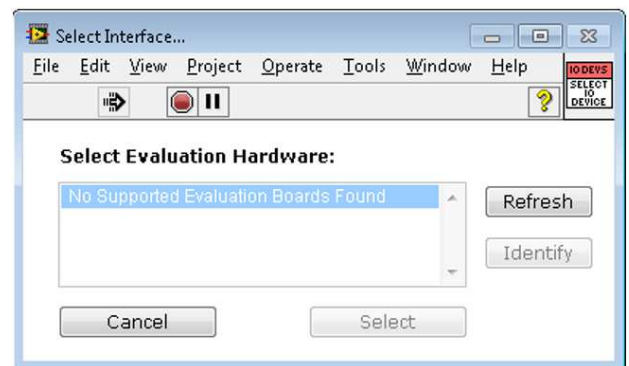

Figure 15. Connectivity Error Alert
2. If the **AD7761** evaluation system is not connected to the USB port via the **EVAL-SDP-CH1Z** when the software is launched, a connectivity error displays prompting the user to choose an evaluation board (see Figure 15). Connect the evaluation board to the USB port of the PC, wait a few seconds, click **Refresh** and then follow the on-screen instructions.